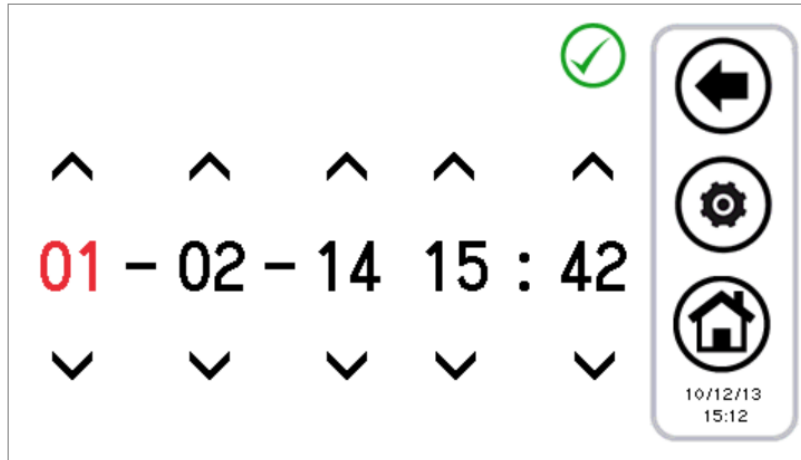

Figure 22. Date and time page settings.
- Set the date and the time by pressing on “Clock” (it appears the screen shown in Figure 22);